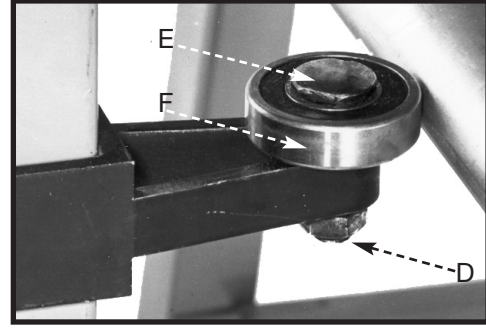

Fig. 57
3. To adjust, loosen locknut (D) Fig. 57 and turn eccentric (E) to move bearing (F) in or out. Moving bearing (F) will raise or lower the right end of the sliding table. After adjustment is complete, tighten locknut (D).